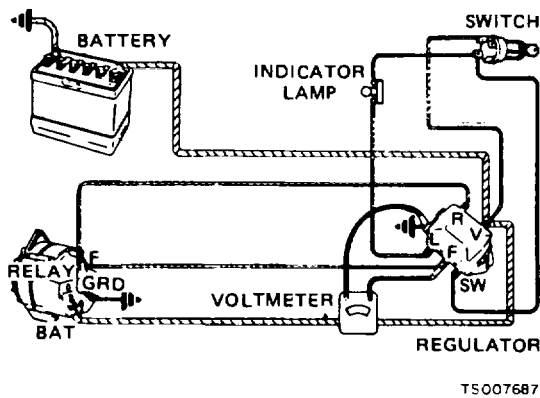

Figure 4-14. Checking Field Relay
(2) To check operation of field relay, make meter connections as shown in figure 4-14, connecting the voltmeter from field terminal of regulator to ground. Turn on ignition switch, but do not start engine. The voltmeter should indicate battery voltage. If the voltmeter indicates zero, the field relay is defective.